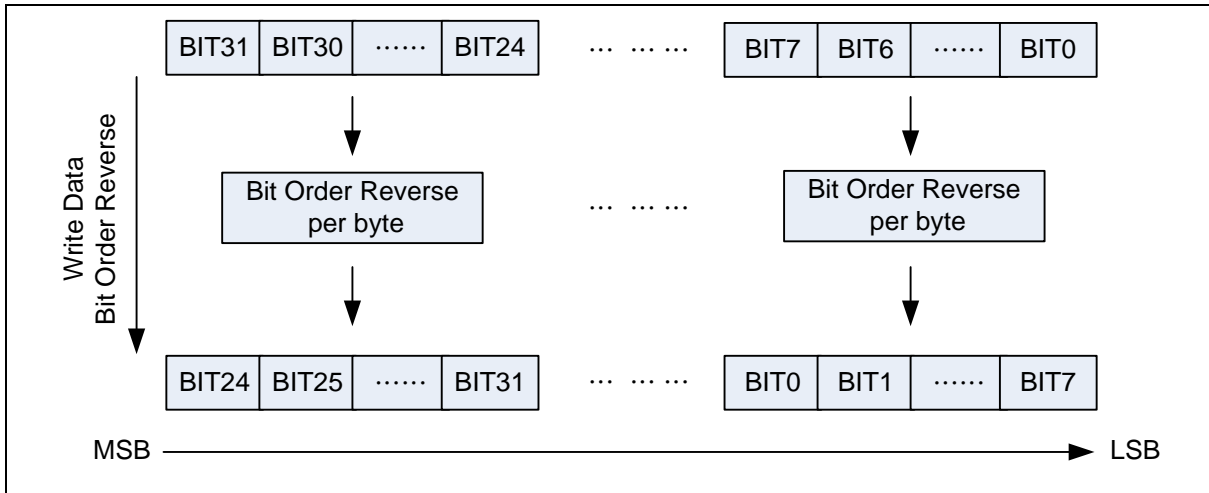

Figure 6.7-3 Write Data Bit Order Reverse Functional Block
- Configure bit order reverse for CRC write data by setting DATREV (CRC\_CTL[24]). The functional block is also shown in Figure 6.7-3.